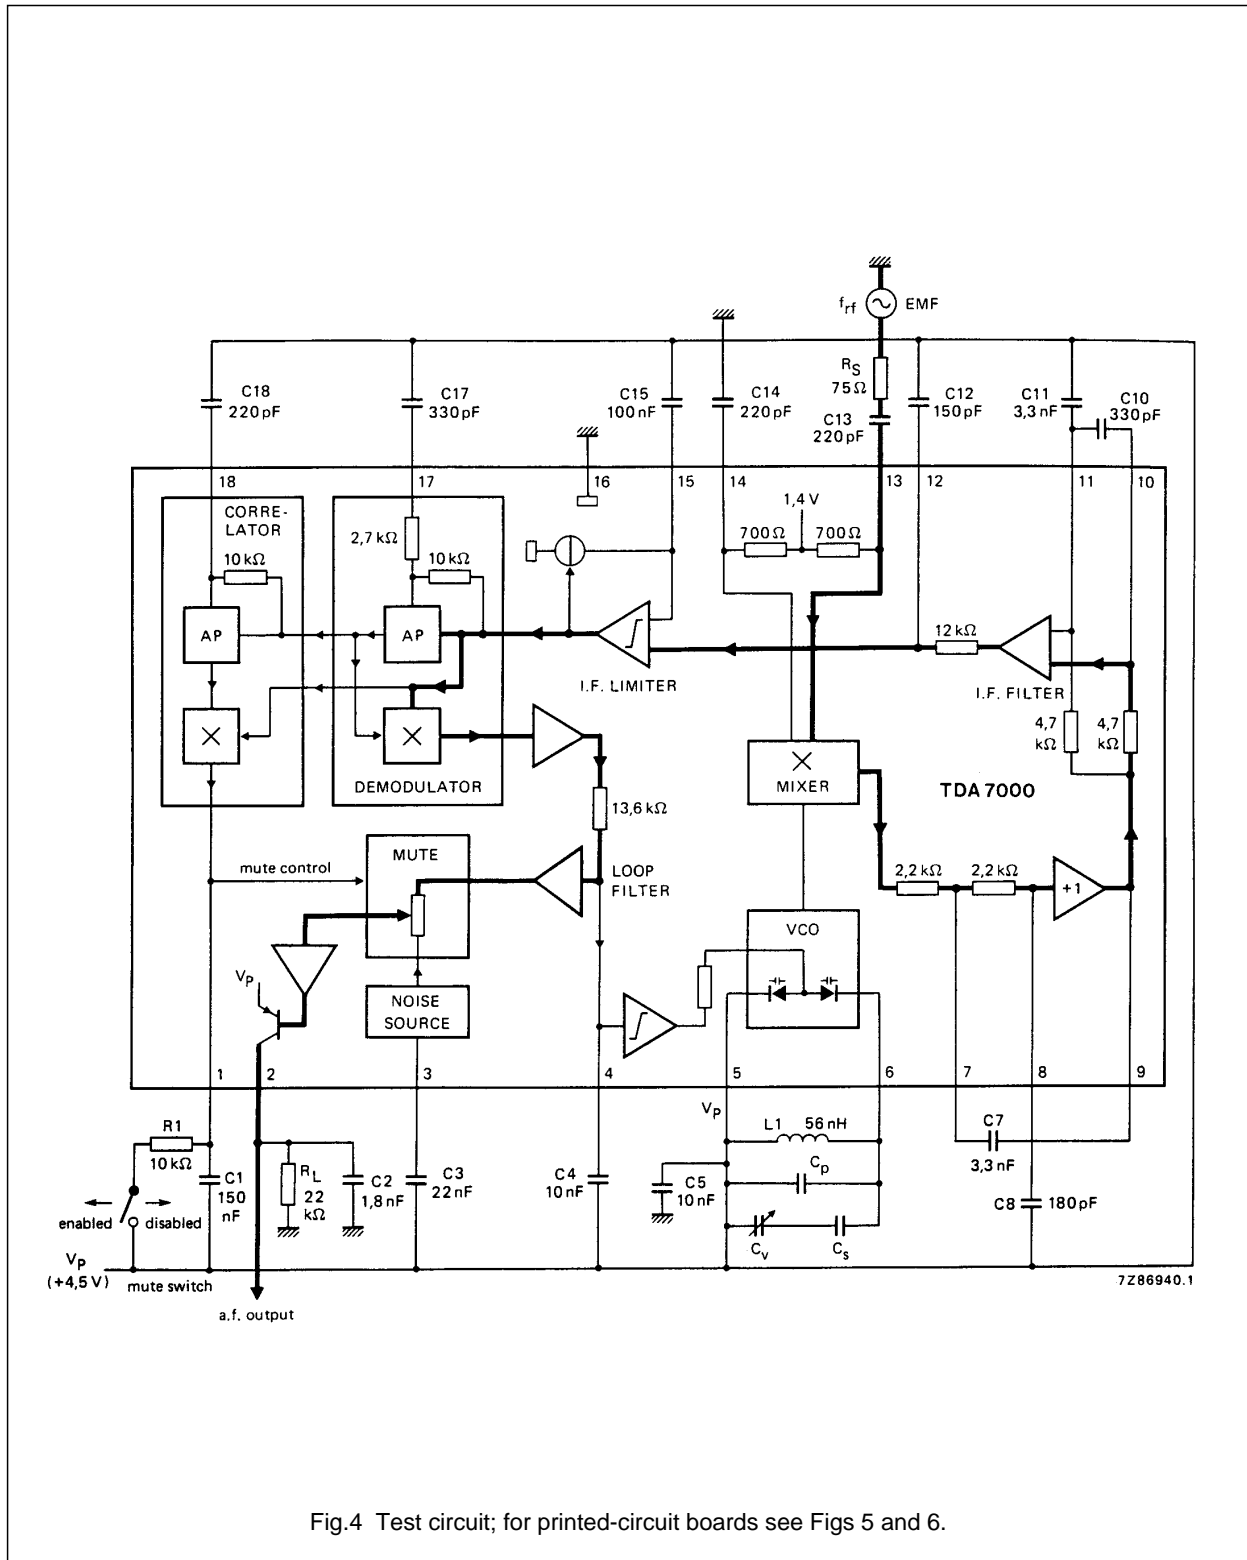

Fig.4 Test circuit; for printed-circuit boards see Figs 5 and 6.
D.C. CHARACTERISTICS $V_P = 4,5$ V; $T_{amb} = 25$ °C; measured in Fig.4; unless otherwise specified
$V_P = 4,5 \text{ V}$; $T_{amb} = 25 \text{ }^\circ\text{C}$; measured in Fig.4 (mute switch open, enabled); $f_{rf} = 96 \text{ MHz}$ (tuned to max. signal at $5 \text{ } \mu\text{V}$ e.m.f.) modulated with $\Delta f = \pm 22,5 \text{ kHz}$; $f_m = 1 \text{ kHz}$; $EMF = 0,2 \text{ mV}$ (e.m.f. voltage at a source impedance of $75 \text{ } \Omega$); r.m.s. noise voltage measured unweighted ($f = 300 \text{ Hz}$ to 20 kHz); unless otherwise specified.